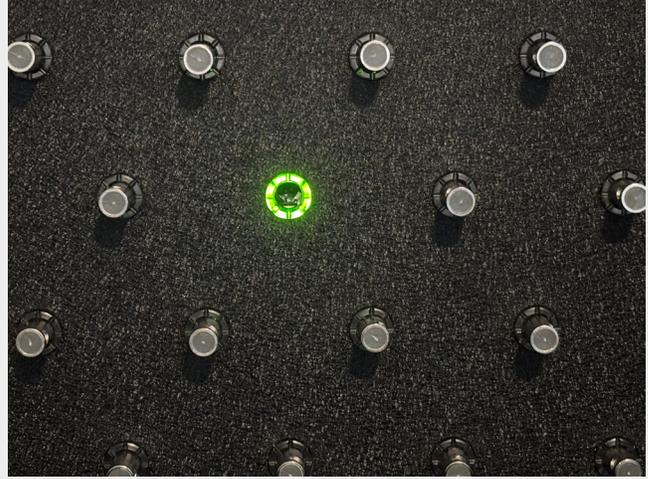

Fig. 42 – Return the iFob
6. Insert the **fobs** into any of the lighted empty sockets, as shown in Fig. 41 and Fig. 42.